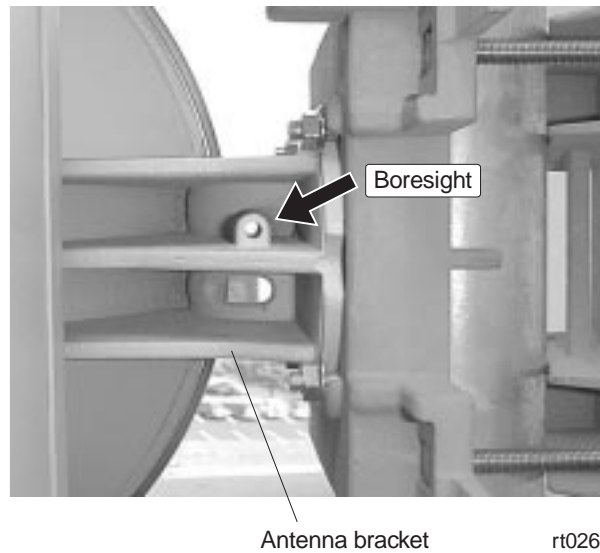

Figure 6-13 Boresight location
1. Stand behind the antenna so you can see through the antenna boresight (shown in figure 6-13).